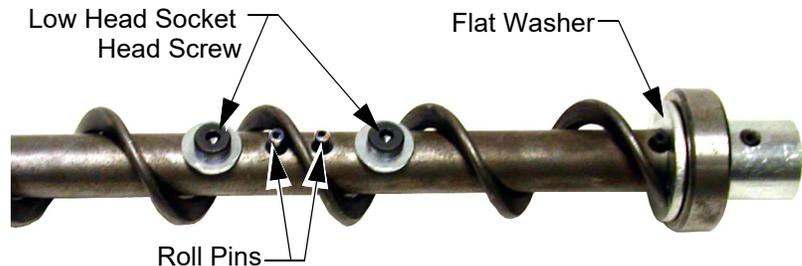

Figure 42. Auger and Anchor Bearing Connection
If the system must be disassembled, extreme caution must be used to prevent injury from springing auger. Refer to **Figure 42**.
1. Insert the Anchor Assembly into the auger, guide the tip of the auger between the two roll pins in the center of the anchor. Continue to guide the auger until the tip of the auger hits the flat washer. Tighten the setscrews in the center of the anchor until they touch (See **Figure 42**.)